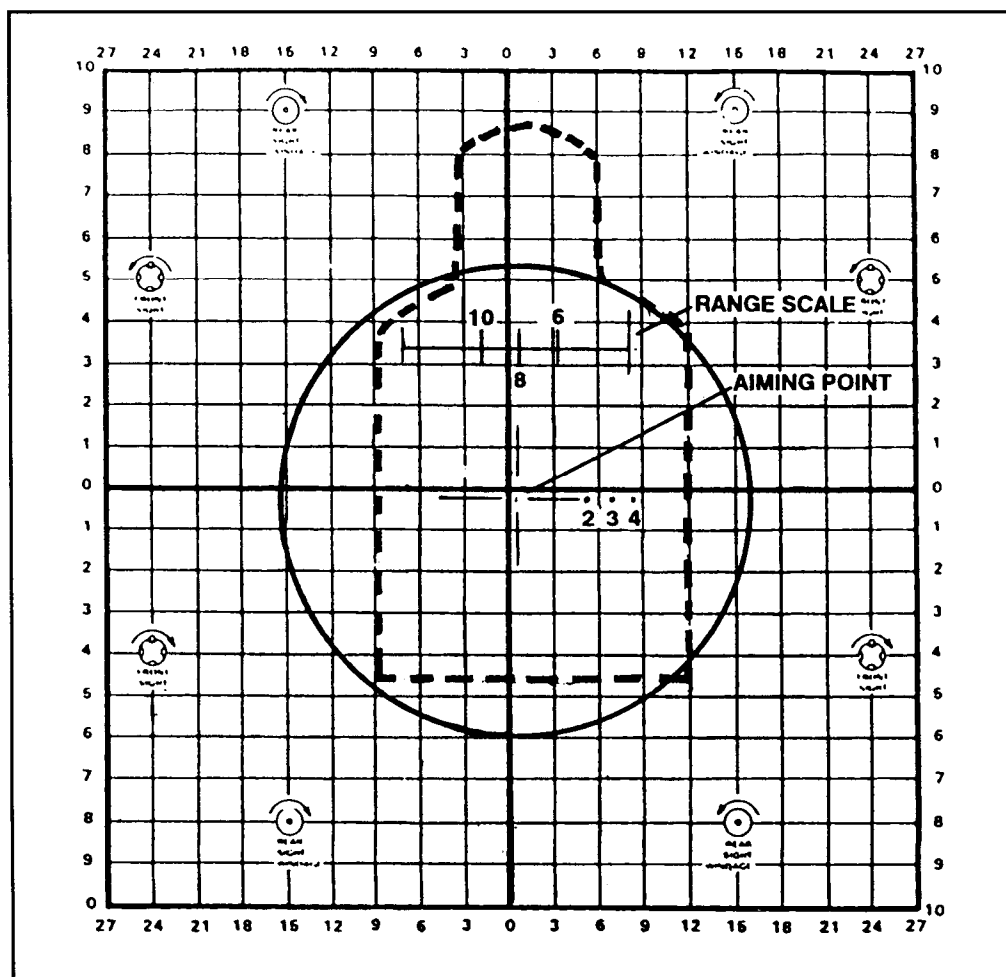

Figure 5-23. Reticle aiming point and the target aiming point.
d. **Confirming the Boresight.** To do this, the automatic rifleman centers and affixes a 25-meter (M16A2) zero target to the back of a basic machine gun paster target. This provides a large, clear surface for identifying the strike of the round. Then, he emplaces the target 10 meters from the firing position. The automatic rifleman places the reticle aiming point on the 25-meter zero target aiming point (Figure 5-23) and fires a single round. If the round impacts anywhere near the aiming point, he fires two more rounds to establish his group.